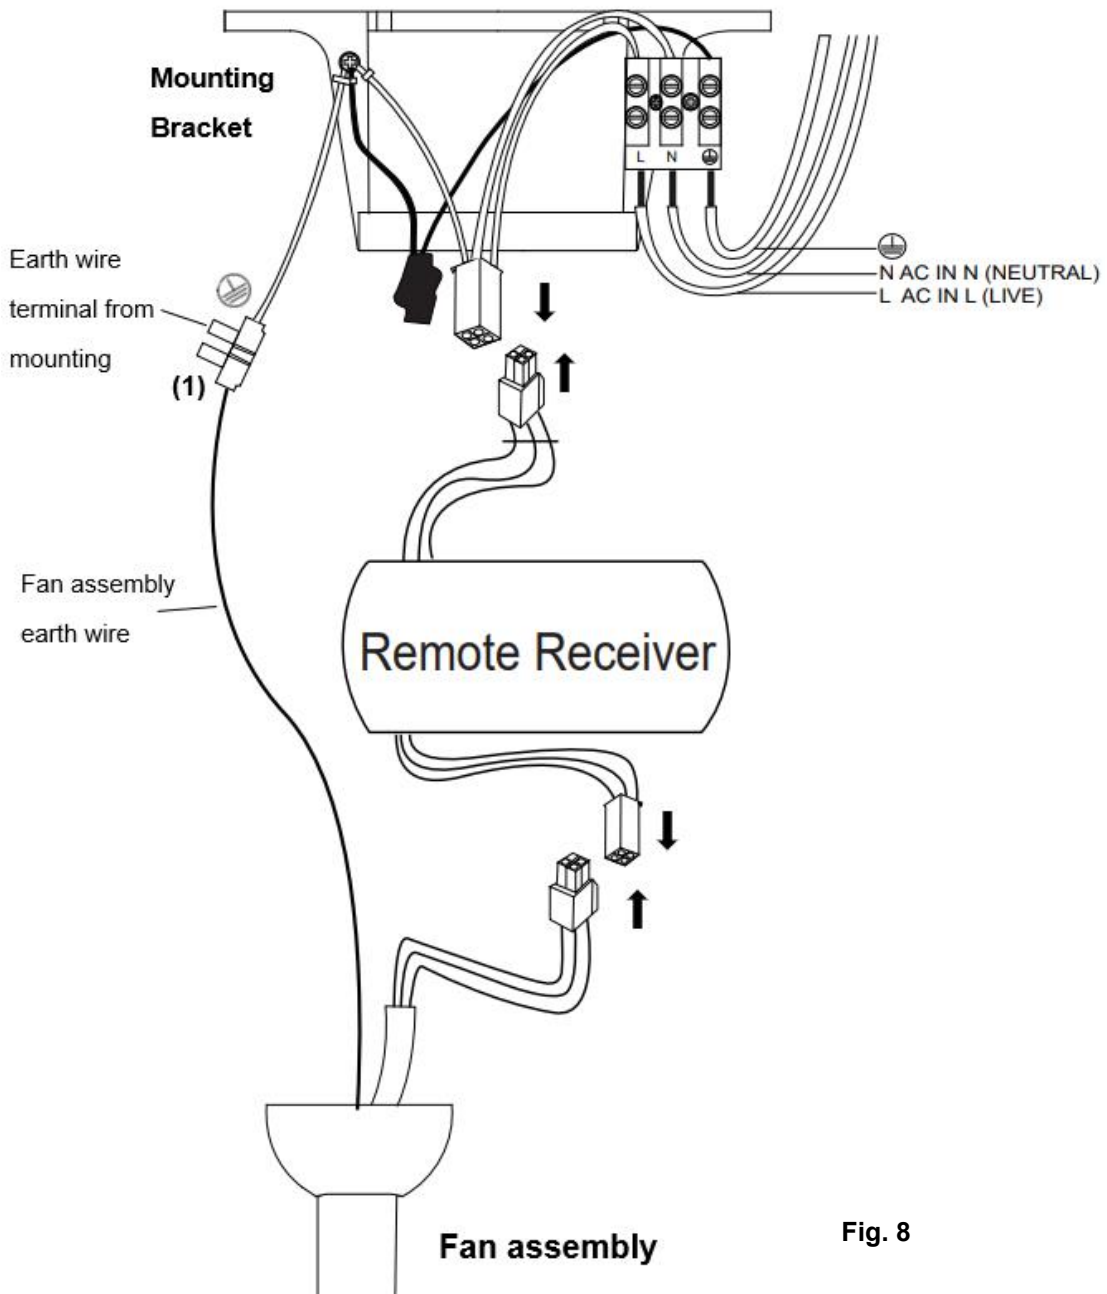

Fig. 8
**ELECTRICAL WIRING DIAGRAM THE FAN****PREPARE AND COMPLETE THE ELECTRICAL WIRING --- WIRING DIAGRAM (FIG. 8)**
**NOTE:** Ensure the motor earth wire is connected to the single earthing terminal block “1” in the diagram below (Fig. 8).
**From mains supply to mounting bracket terminal block: (Fig. 8)**
**From mounting bracket to receiver and motor: (Fig. 8)**